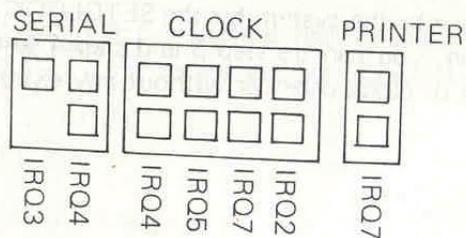

Fig. 3
1. Enable clock interrupts by installing a shorting plug on the appropriate position of the interrupt select jumper block JP1 shown in figure 3: